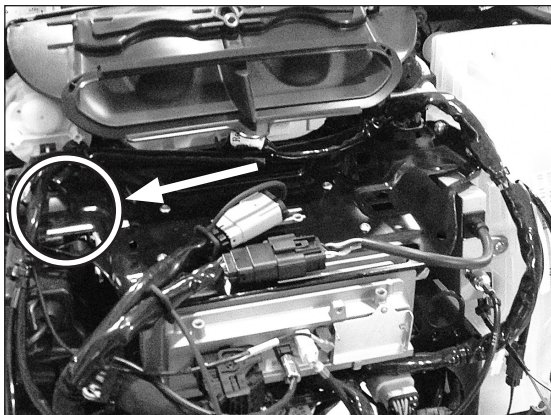

Figure 1.1 - The white circle shows the new location for GPS Antenna if your bike came factory equipped with this feature.
- Step #2: Over top of the radio, pull up to release each wire harness from the black plate via the factory "Christmas tree" fasteners. If your bike has factory GPS, the small square antenna will need to be relocated just behind the voltmeter as shown in Fig 1.1 below. Remove the four factory T-20 "Torx" screws that go through the top of the black plate and into the top of the radio.